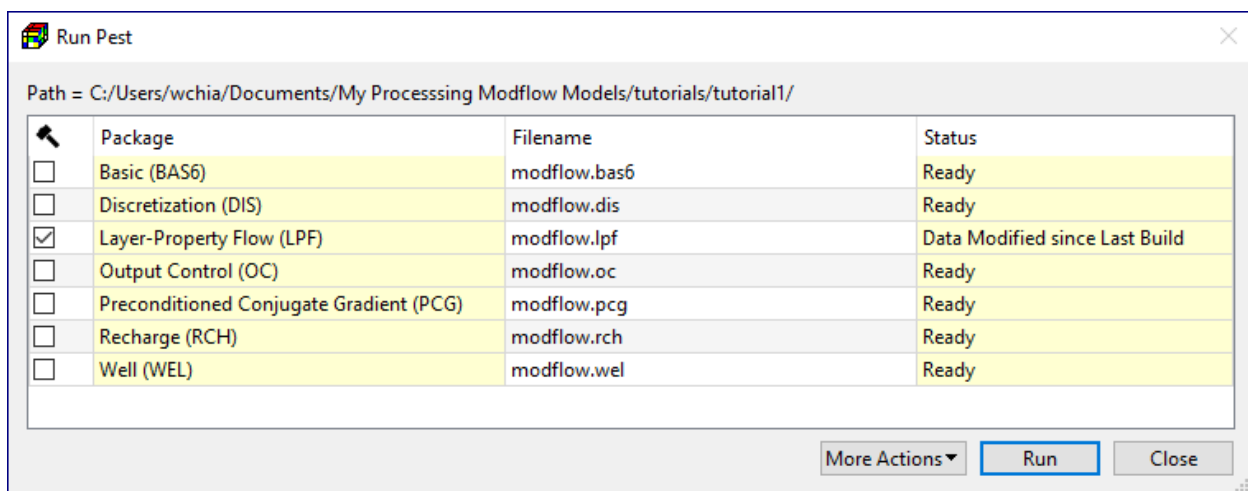

Figure 20. The Run PEST dialog box
1. Select Models > PEST > Run to display the Run PEST dialog box appears (Figure 20). PM will configure the settings for the build boxes in the  column automatically.